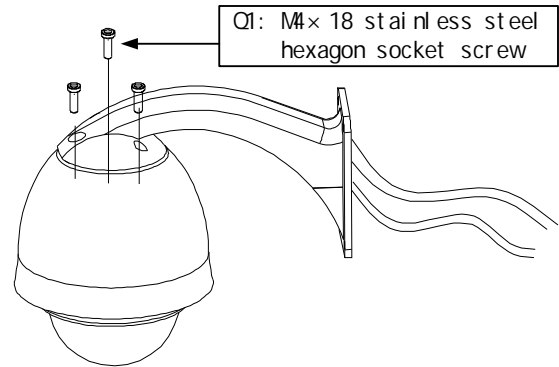

Figure 13
g) Fit the dome retaining screws as Figure 13.